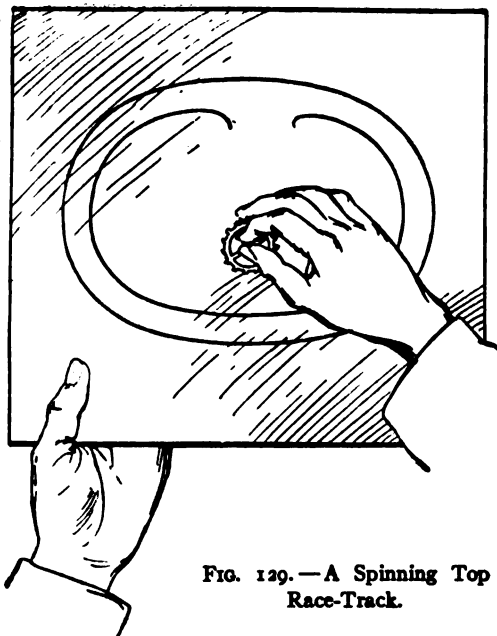

FIG. 129. — A Spinning Top Race-Track.
interesting as tops. Great fun may be had spinning these wheel tops around the balance-wheel top, while the latter is spinning. Figure 129 shows how to hold a clock wheel between the thumb and first finger, for spinning. Start it with a snapping movement of the fingers.
**A Spinning Top Race-Track.** By drawing a track upon a piece of cardboard, as shown in Fig. 129, with an opening on the inside, great fun may be had by starting any one of the small tops just described, with the exception of the